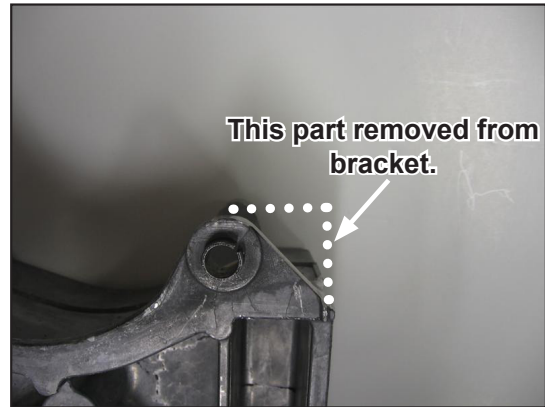

Figure 27. Remove Top Right Corner of Bracket
- a. Remove the top right corner of the bracket as shown in Figure 27.